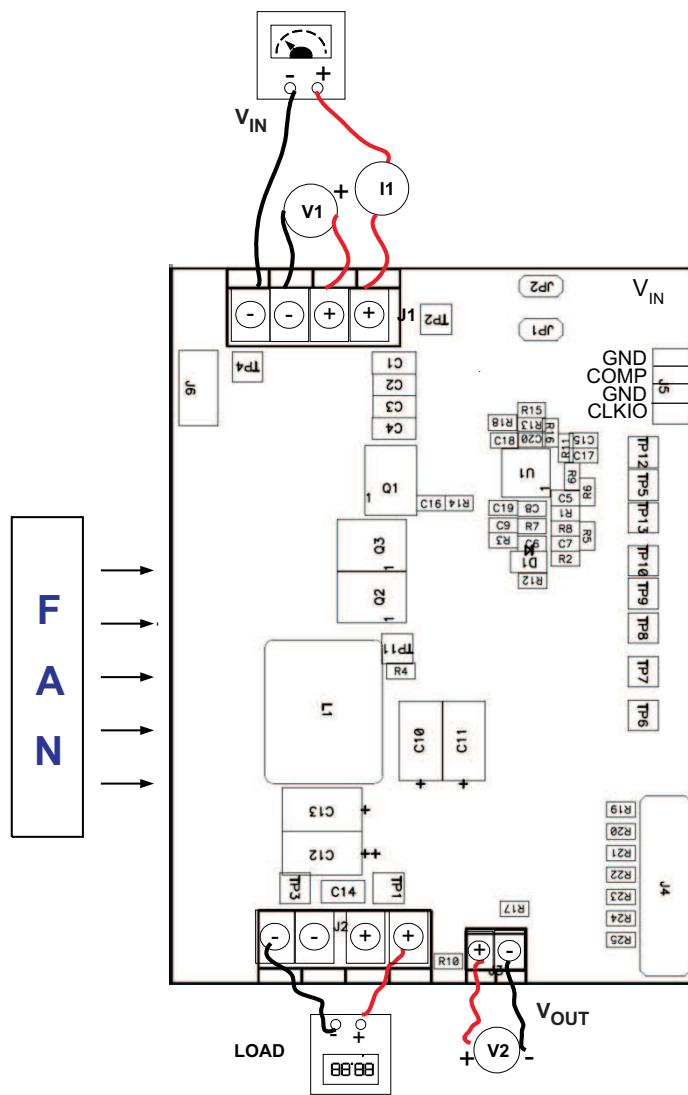

Figure 3. TPS40180EVM Recommended Test Set-Up
The input voltage source  $V_{IN}$  should be a 0–15 V variable DC source capable of 10 A. Connect  $V_{IN1}$  to J1 as shown in Figure 3.
The input voltage source  $V_{IN2}$  should be a 0–6 V variable DC source capable of 2 A. Connect  $V_{IN2}$  to J2 as shown in Figure 3.
Shown in Figure 3 is the basic test set up recommended to evaluate the TPS40180EVM.
Prior to connecting the DC input source,  $V_{IN}$ , it is advisable to limit the source current from  $V_{IN}$  to 10A maximum. Make sure  $V_{IN}$  is initially set to 0V and connected as shown in Figure 3.
2. Connect voltmeter, V2, across TP1 and TP3, as shown in Figure 3.
1. Place Fan as shown in Figure 3 and turn on, making sure air is flowing across the EVM.